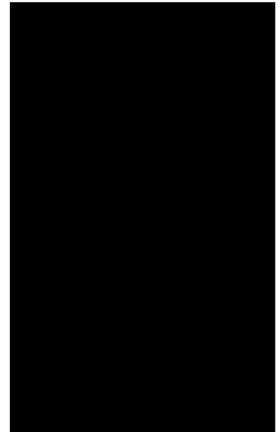

Figure 1-1
1. “Electric Warns” Warning Sign Figure 1-1 on Electric Box and Wire Connection Box, etc. It is a warning sign for electric wares. Only the authorized operators and the repairmen are allowed to open them for the operation or repair.